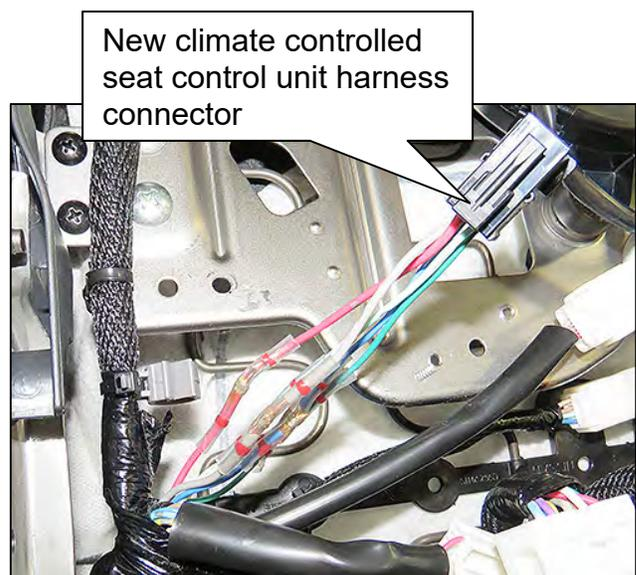

Figure 22
30. Perform steps 26-29 on the remaining five (5) wires and then proceed to step 31.
- Figure 22 is shown with all solder connections completed.